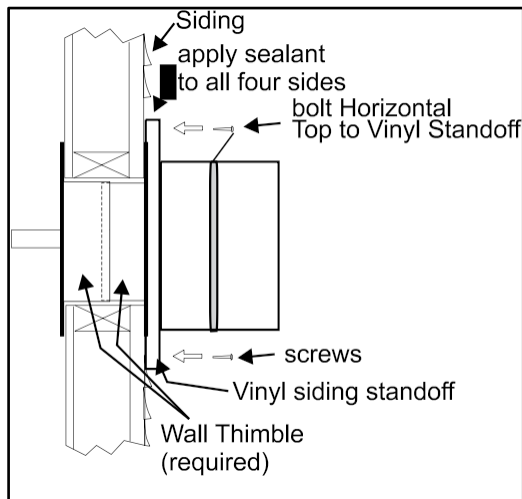

Figure 37: Installation of Vinyl Siding Standoff.
- (1) The four (4) wood screws provided should be replaced with appropriate fasteners for stucco, brick, concrete, or other types sidings.
- (2) For buildings with vinyl siding, a Vinyl Siding Standoff should be installed between the vent cap and the wall (see Figure 37). Attach the Vinyl Siding Standoff to the Horizontal Vent Termination. The Vinyl Siding Standoff prevents excessive heat from possibly melting the vinyl siding material. Note that the Square Horizontal Vent Termination bolts onto the flat portion of the Vinyl Siding Standoff, (Shaded area shown in Figure 37), so that an air space will exist between the wall and the Vent Termination.